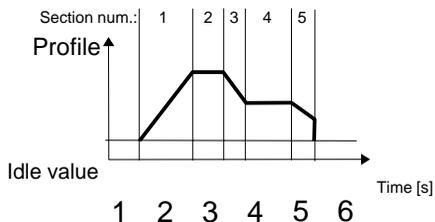

Fig. 7.108. Sample of Profile/timer
- **level (gate)** – this means that the Profile configured by the user when the source signal has the value > 0 , otherwise (if source value ≤ 0) the defined Profile will not be generated. See Fig. 7.108 and example a) in Fig. 7.109,
- **edge (once)** – this means that the Profile configured by the user will be triggered by the rising edge (from values ≤ 0 to the value > 0) of the source signal. After the rising edge the Profile will be generated in whole (once), regardless of further changes to the signal source, see Fig. 7.108 and example b) in Fig. 7.109,
- **edge (re-triggering)** – this means that the Profile configured by the user will be triggered by the rising edge (from values ≤ 0 to the value > 0) of the source signal. However, in this mode, unlike the **edge (once)** mode the defined Profile will be generated from the beginning every time the Triggering source signal generates an edge, whether that Profile had been completed or not. See Fig. 7.108 and example c) in Fig. 7.109,
Fig. 7.109. Samples of **Profile** output waveforms defined in Fig. 7.108, triggered by signal selected in **Triggering source** parameter for **Triggering mode: level (gate), edge (once), edge (retrig.)**